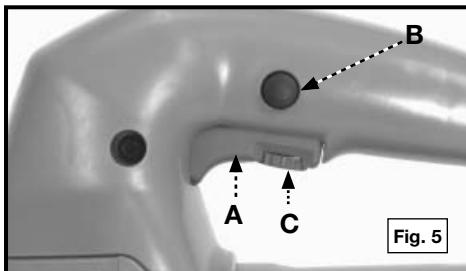

Fig. 5
1. Squeeze the trigger switch (A) Fig. 5 to start the motor. Release the trigger to stop motor.
2. A lock button (B) Fig. 5 is provided to keep the saw running without holding the switch trigger "**ON**". To lock the switch trigger "**ON**", squeeze the trigger as far as it will go and push in the lock button. Release the trigger.
This saw is equipped with an adjustable variable speed control with a speed range of 500 to 3100 SPM. Adjust the speed by turning the control knob (C) Fig. 5. Adjust the speed control with or without the motor running.